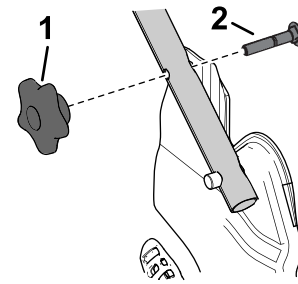

Figure 18
1. Remove and save the 2 handle knobs and 2 carriage bolts from the handle brackets (**Figure 18**).